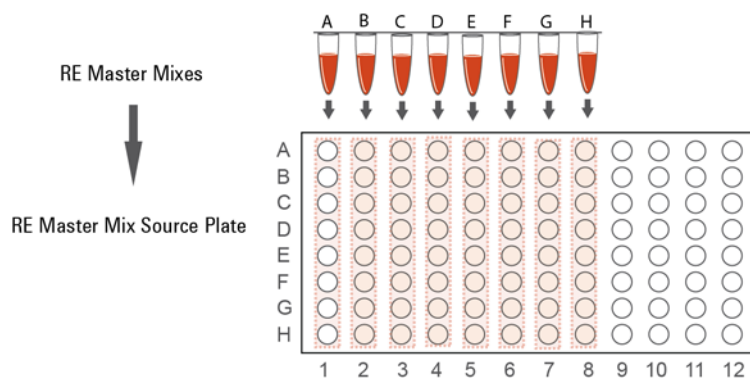

Figure 1 Preparation of the RE Master Mix source plate for automation protocol Digestion_v1.0.pro.
- 1 Aliquot the Restriction Enzyme Master Mixes to a full-skirted 96-well Eppendorf twin.tec plate as shown in Figure 1. Add the volumes indicated in Table 3 of each master mix A–H to each well of the indicated column of the twin.tec plate. Keep the master mixes on ice during the aliquoting steps.